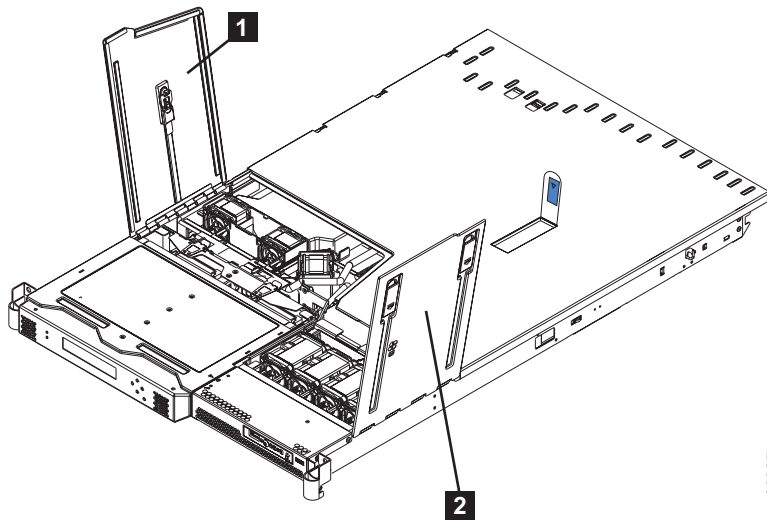

Figure 92. SAN Volume Controller 2145-8F2 or SAN Volume Controller 2145-8F4 with fan doors open
4. Close the fan door ( **1** in Figure 92) and replace the node in the rack.